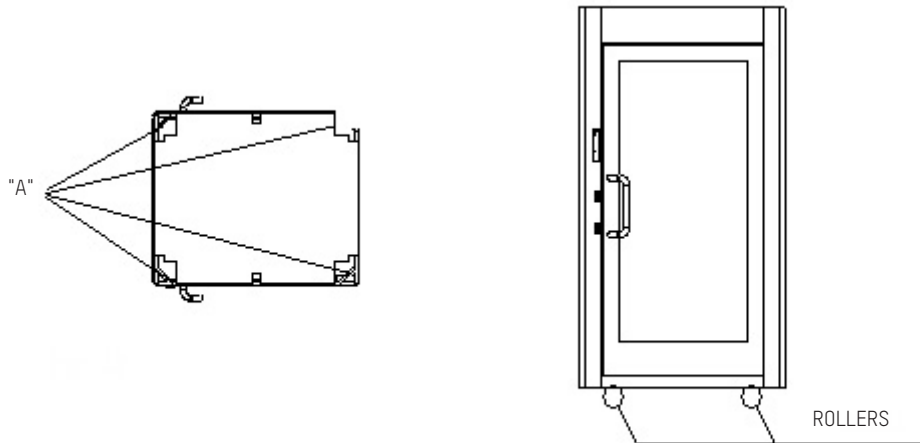

Fig. 4-1
1. Put the booth in the predetermined place, disposing the external side towards the outside of the place. For the movements use a crane with minimum capacity of 1500 kg, using chains attached to the four superior edges "A" of the booth (Figure 4-1), the crowbar on the bottom and the rollers under the basement (Figure 4-1).